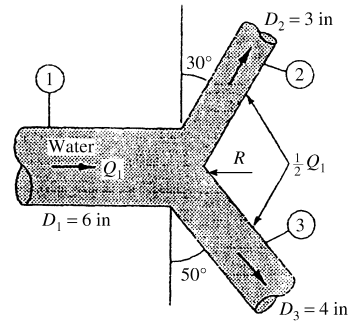

Fig. P3.173
3.173 The horizontal wye fitting in Fig. P3.173 splits the 20°C water flow rate equally, if $Q_1 = 5 \text{ ft}^3/\text{s}$ and $p_1 = 25 \text{ lbf/in}^2$ (gage) and losses are neglected, estimate (a) p_2 , (b) p_3 , and (c) the vector force required to keep the wye in place.